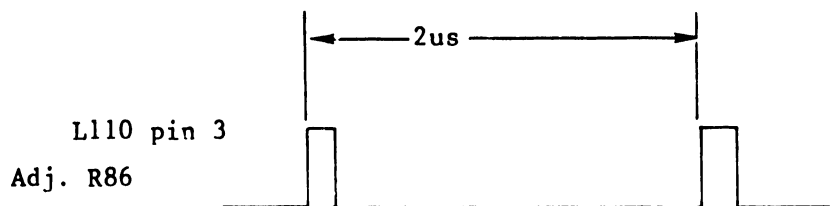

Figure 3-2
- A. Attach the channel 1 (oscilloscope) probe to L110 pin 3. Vertical deflection 2v/cm, Sweep rate .5us/div, Trigger internal positive slope on channel 1, Display channel 1 only. With the system reading sector 17385\*, adjust R85 until a period of 2us is acquired (See figure 3-2).